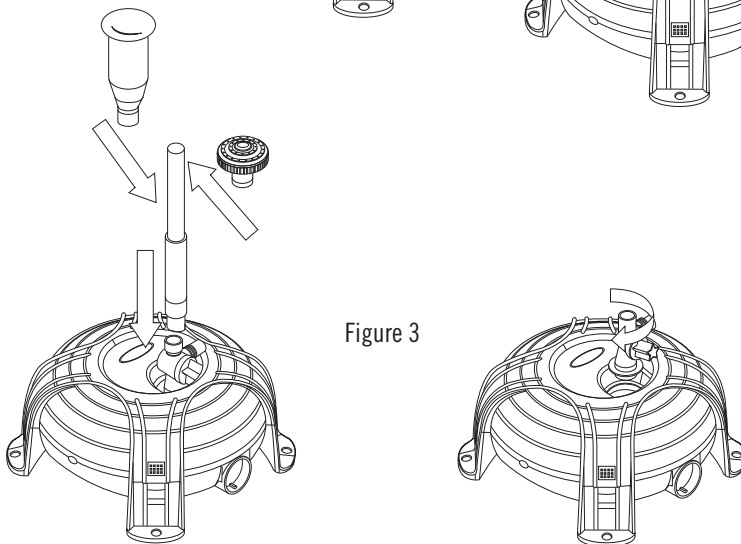

Figure 3
- 3) If you have the AquaJet 600 all you have to do is select the fountain head it is supplied with and fasten it to the telescopic tube Fig. 3. If you have the AquaJet 1000 or AquaJet 1500 all you have to do is screw the 2-1 Fountain Head onto the telescopic tube.